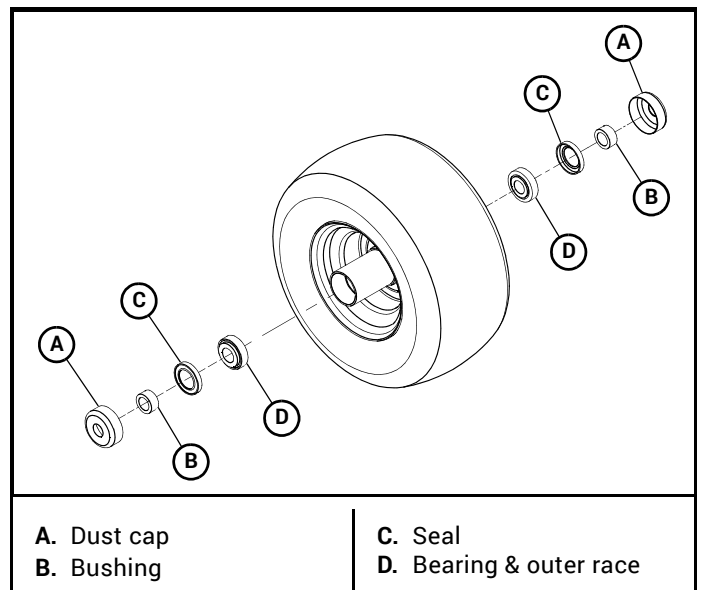

Figure 4-34
5. Insert the bushings through the seal openings and push them in until they contact the tapered roller bearings. Figure 4-34
6. Push the dust caps onto the wheel housing. Figure 4-34